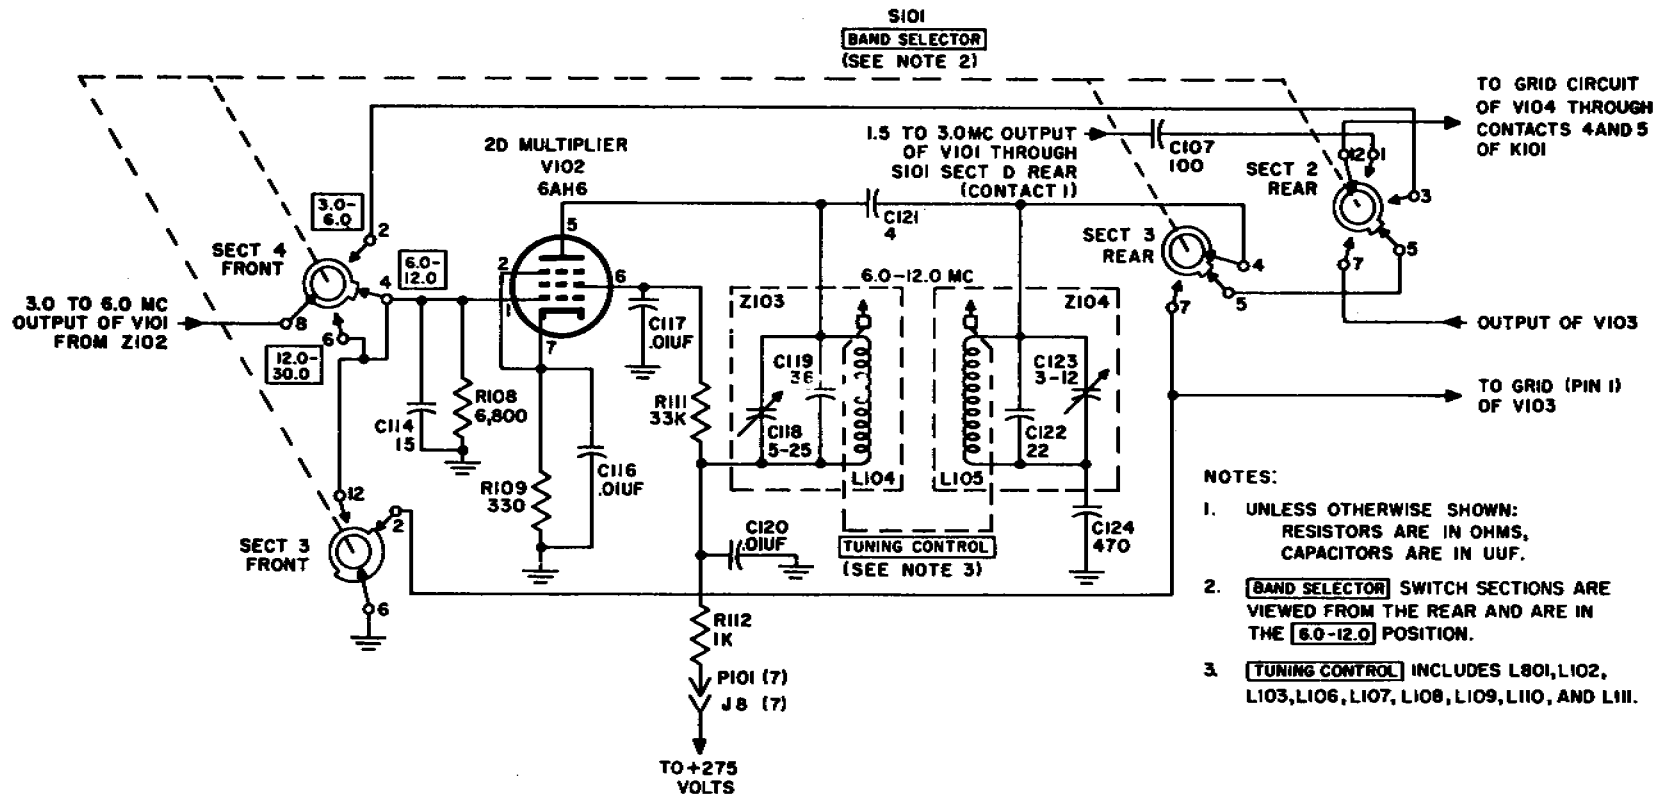

Figure 5. Second multiplier stage.
*a.* The master oscillator (mo) and first buffer amplifier use two type 5749 tubes, V801 and V802, in circuits which, in the basic and A models, are operative for CW or AM operation only. In the B and C models, these stages are operative in all modes of operation except EXT EXC. Oscillator tuning is ganged with the multiplier stages so that the entire frequency range of 1.5 to 20.0 mc can be covered in four bands by a single control. The output of V801 is fed through a capacitor to the grid of first buffer tube V802. First buffer V802 is an untuned amplifier used to isolate load effects of the succeeding stages on the mo to prevent oscillator drift. In the basic model (fig. 1), the output of V802 is fed to the grid of second buffer and first multiplier tube V101 by a coaxial cable. In the lettered models, by internal recabling (fig. 5, TM 11-809-20) the output of V802 can be applied to Radio Modulator MD-239/GR. This change in signal paths is indicated by the dotted lines in figure 2.
(1) Tubes used for CW and AM operation of the basic and A models and for CW, AM, FSK, and FSK-AM operation of the B and C models are as follows:
is available only in CW or AM operation. In the B and C models, it is available in all modes of operation except EXT EXC. The buffer output is impressed across a high impedance grid load network consisting of RF choke L101 and resistor R101 in series. Resistor R103 (in series with C101 and C102) is effectively in parallel to the RF choke (with R101) and broadens the stage response. When cabled for use with Radio Modulator MD-239/GR (fig. 5, TM 11-809-20), the fsk output is brought to the grid, pin 1, of V101 from FSK jack J16 by coaxial cable to J101. When cabled for general use, the output of the fsk exciter is connected to V101 from FSK jack J16 by coaxial cable through connector
## 5. Second Multiplier Stage (fig. 5)